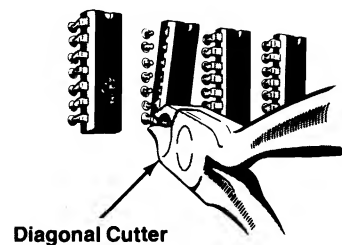

Figure 1 Removing IC (Cut-Pin Method)
The easiest and safest method for removing soldered-in integrated circuits (IC) from a PCB is to cut off each pin as close to the IC case as possible with a tip dyke (diagonal cutter) as shown in Figure 1.